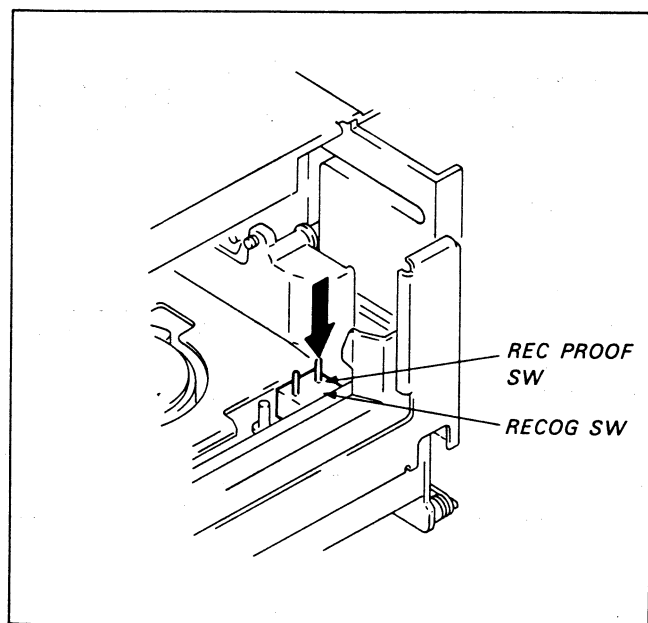

Fig. 3-53.
- 5) Press the erase prevention pin on the RECOG switch and hold down with tape, etc., then press the REC button. (Fig. 3-53)